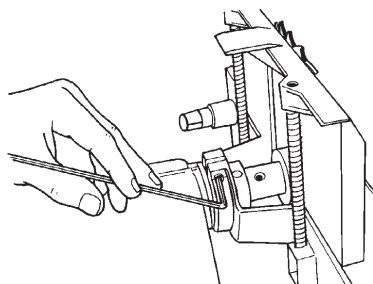

Figure C-65
81. Use the 5/32" Allen wrench to tighten the socket head screw (215) on the saw guard collar, as seen in Figure C-65.